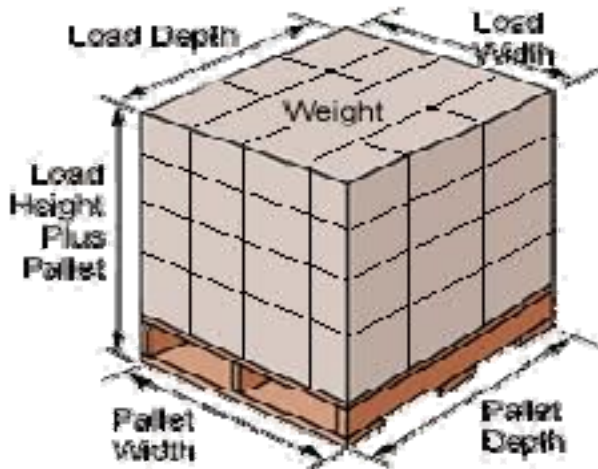

Figure 3.1: Pallet Dimensions
1. Empty pallet dimension: Width = 40 inches, Depth = 48 inches, Height = 4 inches. (See Figure 3.1)